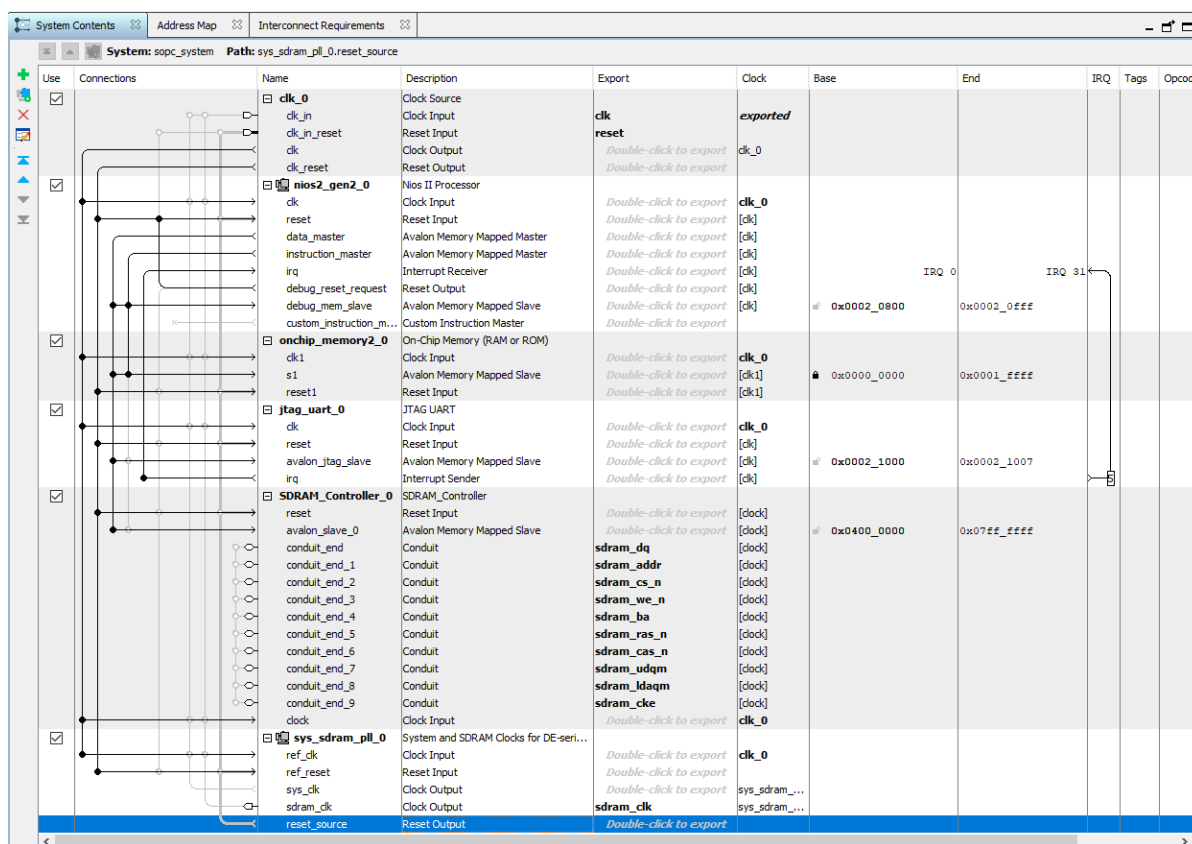

Figure 8: Component Connections, IRQ and Export
10. In the Connection column, make the necessary connections by clicking on the appropriate empty circles to change them to solid circles (Figure 8).
12. In the Export column, export the “sdram\_clk” signal of the pll component (Figure 8).